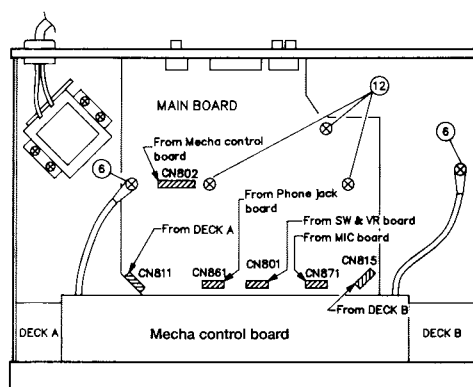

Fig. 2 - 3
a) Mechanism ass'y side (Fig. 2 - 4)